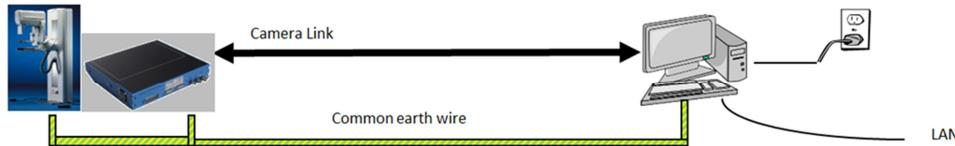

Figure 22: Protective earth between detector and PC. The same applied to GigE.
- Common protective earth between the detector and the PC, in addition to protective earthing to the medical system (for both CL and GigE, Figure 22 below)